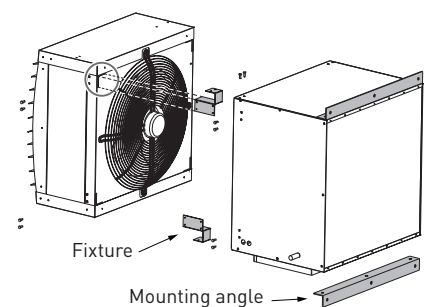

Figure 6. Mounting brackets for wall
9. Pull the motor cable through one of the cable inlets on the access side. See figure 6.
A slot at the end of the damper shaft marks the position of the dampers plate. See figure 6.